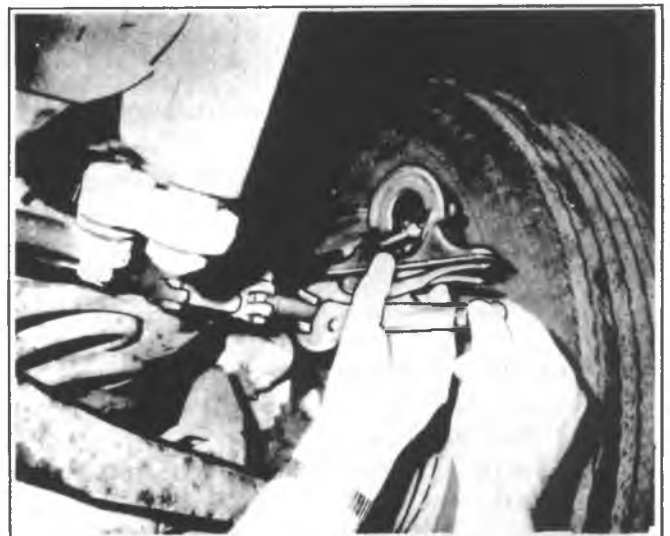

Fig. 3B1-9--Tie Rod Inspection
- b. The clamps must be positioned within the angular travel indicated in Figure 3B1-8.
- c. The relationship of the clamp slot with the slit in the sleeve should be maintained as shown in Figure 3B1-8.
- f. Check each assembly to be sure that a total travel of at least 35° can be obtained using a bubble protractor and a pair of vise grips (Fig. 3B1-9).